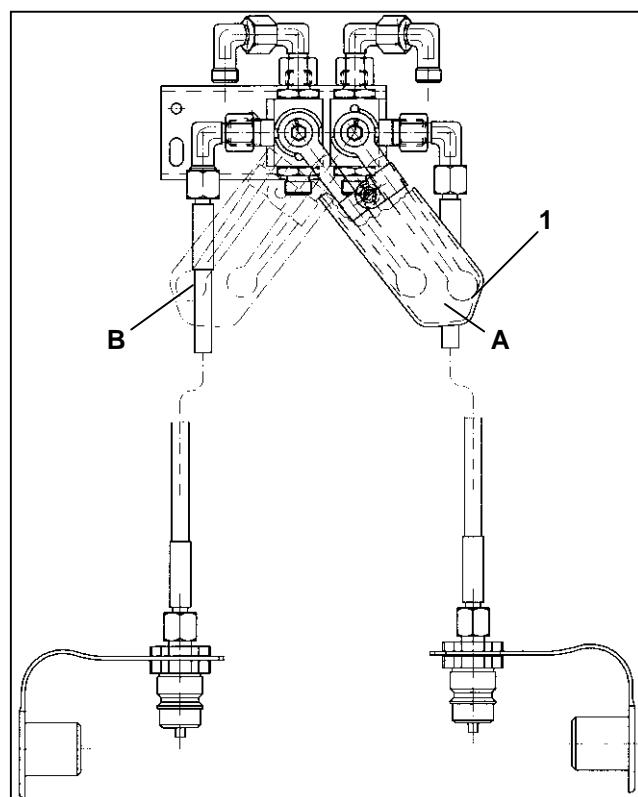

Fig. 8.5
- By actuating the control valve on the tractor move control lever in to Pos. B (Fig. 8.5) and fold in the left hand side boom.
- By actuating the control valve on the tractor move control lever in to Pos. A (Fig. 8.5) and fold in the right hand side boom.